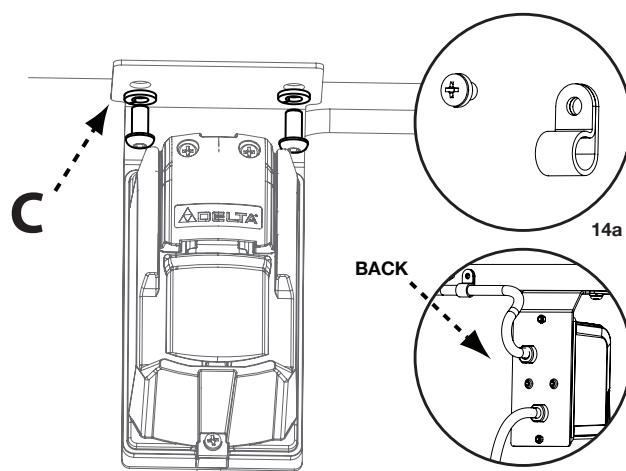

FIGURE 14
- Attach the fence guide to the front rail using four (for 30" versions) six (for 52" versions) 1/4-20 x 1/2-inch hex button head screws and 1/4-inch spring washers through the holes (B) on the bottom side of the front rail.
- Align the two holes in the power control box bracket with the holes underneath the front rail, shown in Figure 14 (C), located on the left side of the saw. Secure the power control box to the front rail using two 1/4-20 x 1/2-inch button head screws.